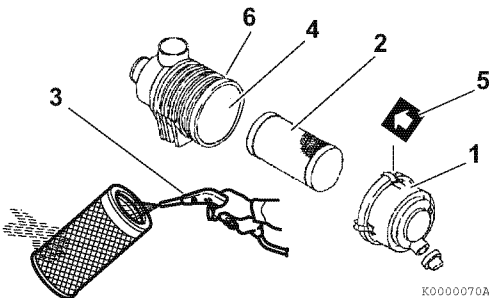
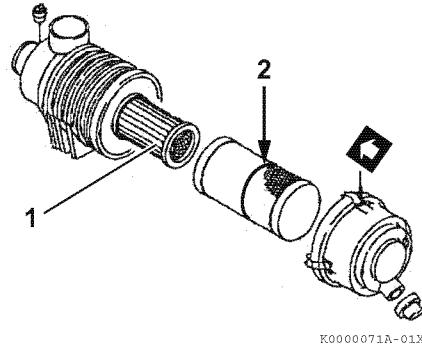

Figure 5-11
Figure 5-12
Note that a typical air cleaner is shown in **Figure 5-11** and **Figure 5-12** for illustrative purposes only.
1. Unlatch and remove the air cleaner cover (**Figure 5-11, (1)**).
2. Remove the element (**Figure 5-11, (2)**) (outer element if equipped with two elements).
3. Blow air (**Figure 5-11, (3)**) through the element from the inside out using 42 - 71 PSI (0.29 - 0.49 MPa; 3.0 - 5.0 kgf/cm²) compressed air to remove the particulates. Use the lowest possible air pressure to remove the dust without damaging the element.
4. If the air cleaner is equipped with a double element, only remove and replace the inner element (**Figure 5-12, (1)**) if the engine lacks power or the dust indicator actuates (if equipped).
8. Install the element into the air cleaner case (**Figure 5-11, (4)**).
- Note: If there is a red line (**Figure 5-12, (2)**) in the outer element, reinsert the element until the overlap position of red line and end face of the air cleaner case.*
9. Reinstall the air cleaner cover making sure you match the arrow (**Figure 5-11, (5)**) on the cover with the arrow on the case (**Figure 5-11, (6)**).
Replace the air cleaner element (**Figure 5-11, (2)**) every 500 hours even if it is not damaged or dirty.
When replacing the element, clean the inside of the air cleaner case (**Figure 5-11, (4)**).
If the air cleaner is equipped with a double element, *only remove and replace the inner element (Figure 5-12, (1)) if the engine lacks power or the dust indicator actuates (if equipped)*. This is in addition to replacing the outer element.